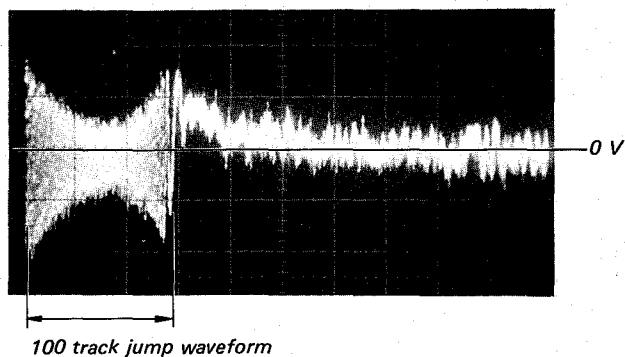

Fig. 9
7. Select AMS mode with the MODE button, continuously press ► or ◀ key and observe the 100 track jump waveform. Check that no traverse waveform appears for both ► and ◀ directions. (See Figures 9 and 10.) It is acceptable if the traverse waveform appears only now and then, but if it appears constantly, raise tracking gain slightly and check step 7 again.